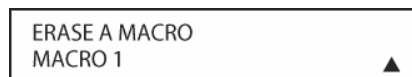

Figure 64
4. The next display screen (**Figure 64**) is where you select which macro will be erased. Press the **▼/▲ Navigation Button [oval 16]** until the number of the macro (M1, M2, M3) you wish to erase appears. For this example we will erase Macro 1 created in the previous section. When the name of the macro to be erased appears, press the **Set Button [oval 18]**.